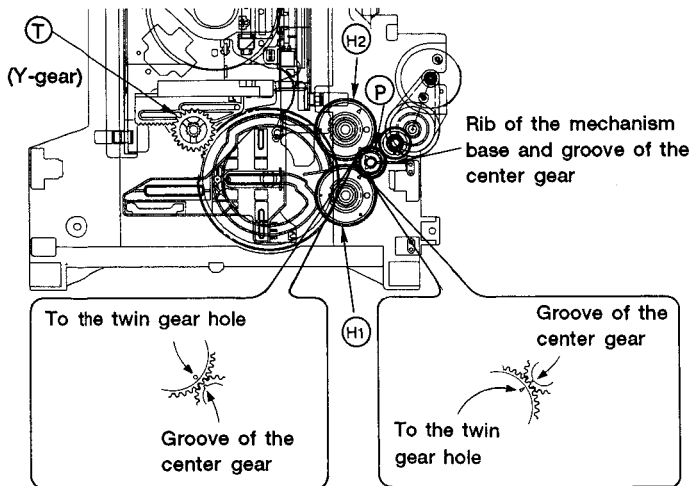

Fig. 1-11
- Attach the center gear ④, twin gears ⑤① and ⑤②, and Y-gear ① in the positions indicated in Fig. 1-11.